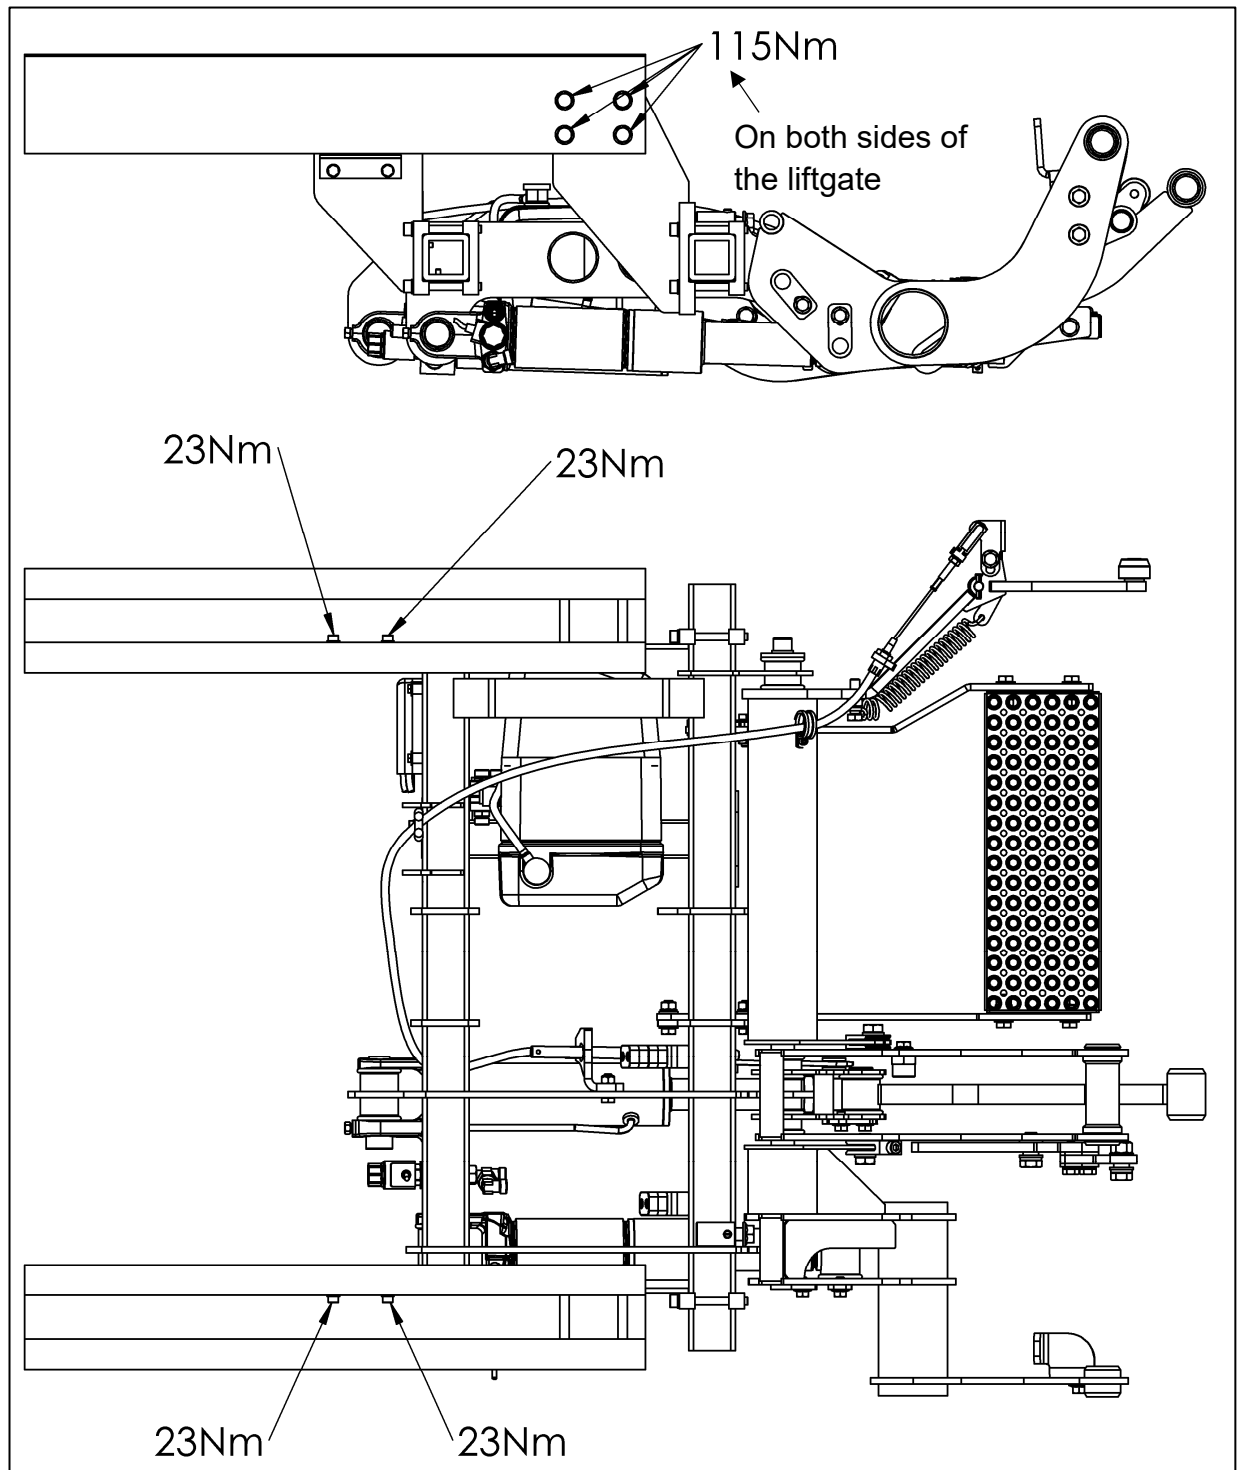

Fig. 30
- Secure the lifting gear (with adapters) to the vehicle and tighten to a torque of **115 Nm** in the rear and **23 Nm** in front (see Fig. 30).